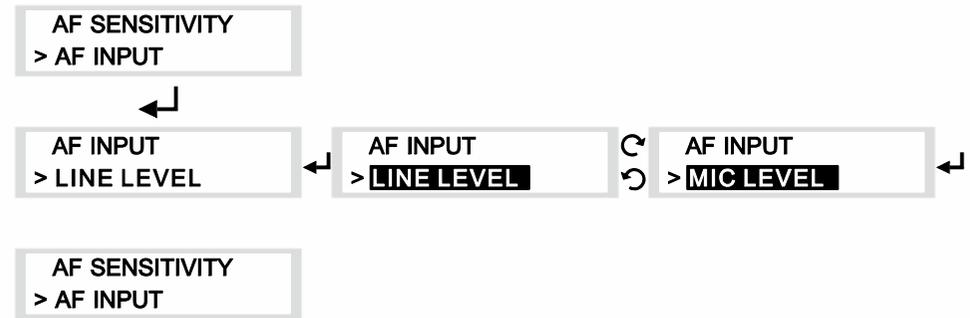

Fig. 13
- (1) Locate AF SENSITIVITY menu, press to activate setting.
- (2) Press to enter setting (highlighted in black). Turn for desired parameters. Press to save.
- (3) Once saved, indicator returns to listed menus.
- (4) Notes:
(E) AF INPUT: Audio Input settings, Fig. 13